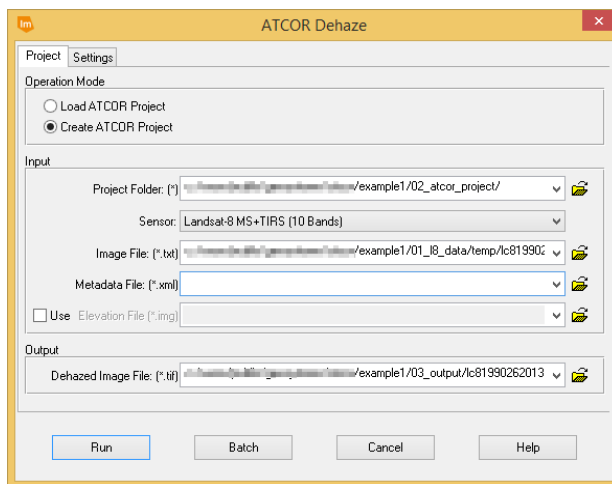

Figure 3: ATCOR Dehaze Project Tab.
4. Specify the following options on the **Project Tab** of the dialog (Figure 3):